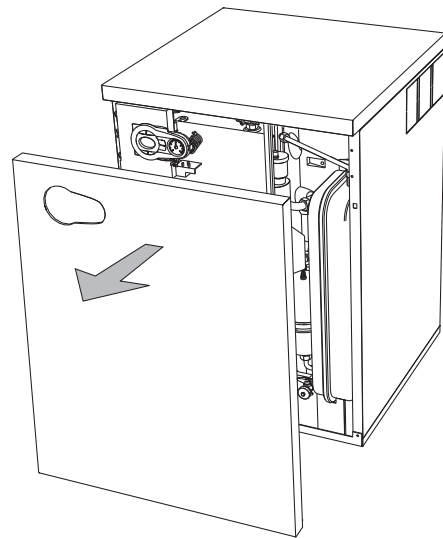

fig. 24 - Front panel opening
2. Remove the front panel (see fig. 24).
To open the boiler casing pull the panel outwards and release it (see fig. 24).